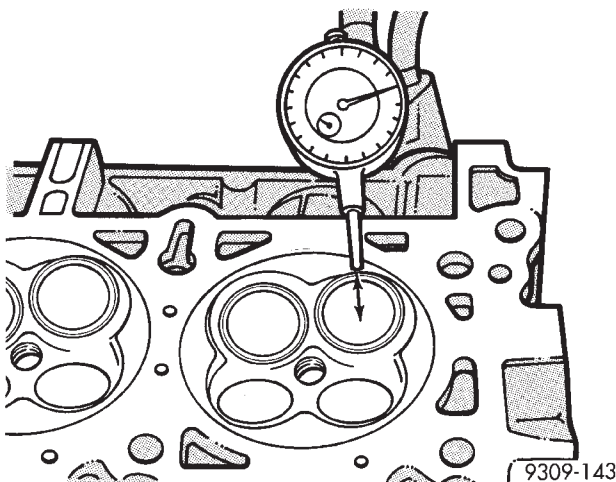

Fig. 92 Measuring Valve Guide Wear—Typical
(1) Measure valve stem-to-guide clearance as follows:
(2) Install valve into cylinder head so it is 15 mm (0.590 inch.) off the valve seat. A small piece of hose may be used to hold valve in place.
(3) Attach dial indicator Tool C-3339 to cylinder head and set it at right angle of valve stem being measured (Fig. 92).
(4) Move valve to and from the indicator. Refer to Valve Guide Specification Chart.